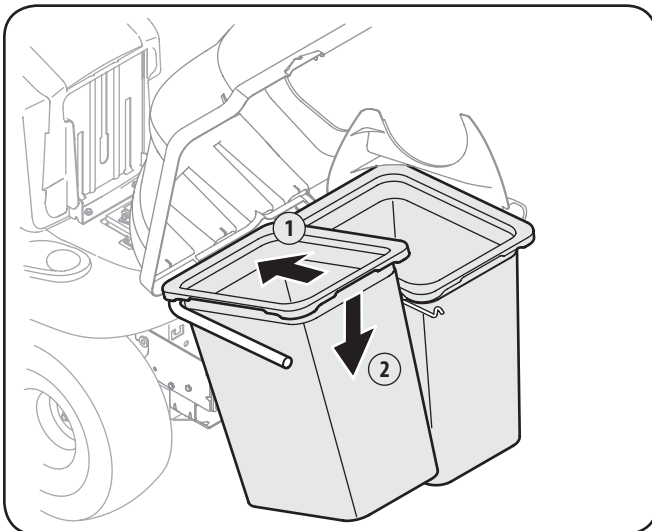

Figure 4-19
- Install both bag assemblies with the tight mesh sides facing forward, onto the bag support brackets by inserting the front edge in first, as seen in Fig. 4-19, and setting the back edge down until it fits into the assembly.